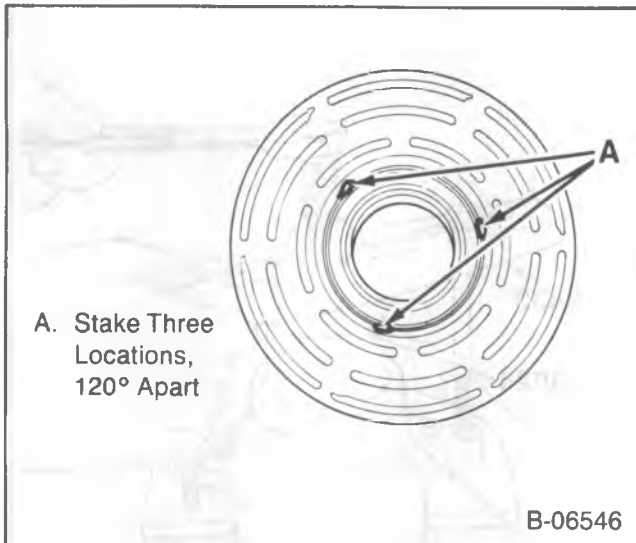
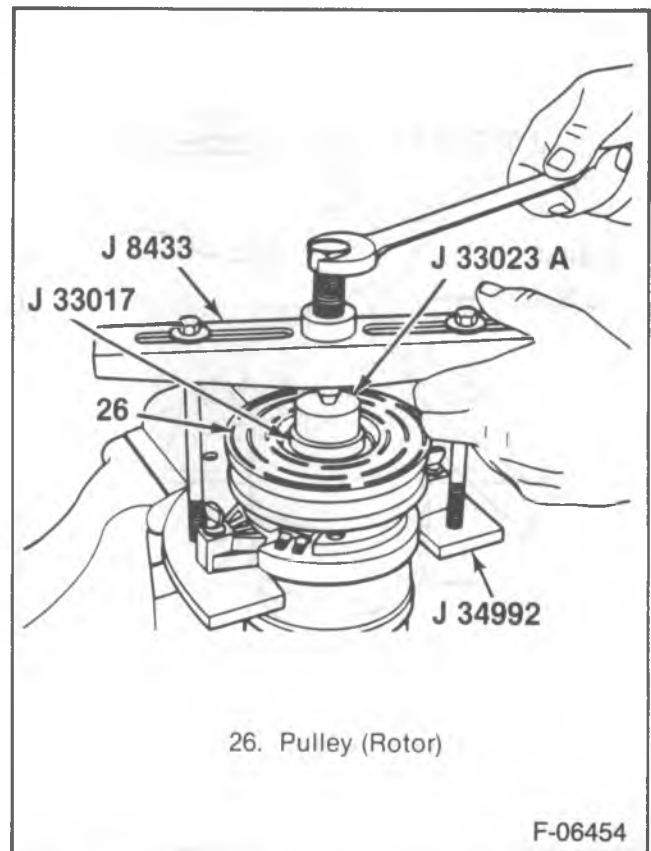

Figure 14—Bearing Stake Locations
Figure 15—Installing the Pulley Bearing Assembly
- Stake 3 places 120 degrees apart (figure 14).
3. Pulley (26) on the front head.
- Position J 33017 and J 33023 over the inner race of the bearing (figure 15).
- Position J 8433 on J 33023 and assemble the through bolts and washers through the puller bar slots and thread them into J 34992 (figure 15).